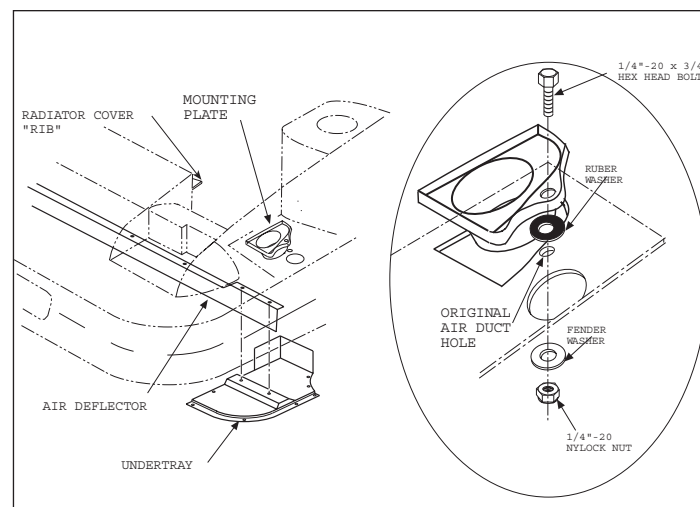

fig. 1
- 7) The K&N Air filter will be installed from underneath the vehicle which requires the removal of the plastic undertray. Before doing so you must first remove the five far left bolts of the air deflector. Now remove the undertray which is secured by seven remaining screws (as shown in fig. 1). **NOTE: If you have a vehicle that is lowered it may be necessary to raise the car. Be sure to use jack stands and chock the rear wheels to secure the vehicle.**
- 8) Place the mounting plate into the lower bulkhead (as shown in fig. 1). Make sure that it is properly seated, then from below the vehicle, mark the mounting plate using the original air duct hole as your guide.
- 9) Remove the mounting plate and drill a 1/4" hole. Now re-position the plate and secure it using the provided hardware. (as shown in fig. 1)
- 11) Now slide the intake tube assembly into place (as shown in fig. 3). **NOTE: Some vehicles have a "Rib" on the radiator cover (as shown in fig. 1&3). This "rib" will need to be trimmed to give sufficient clearance, then file any sharp edges.**